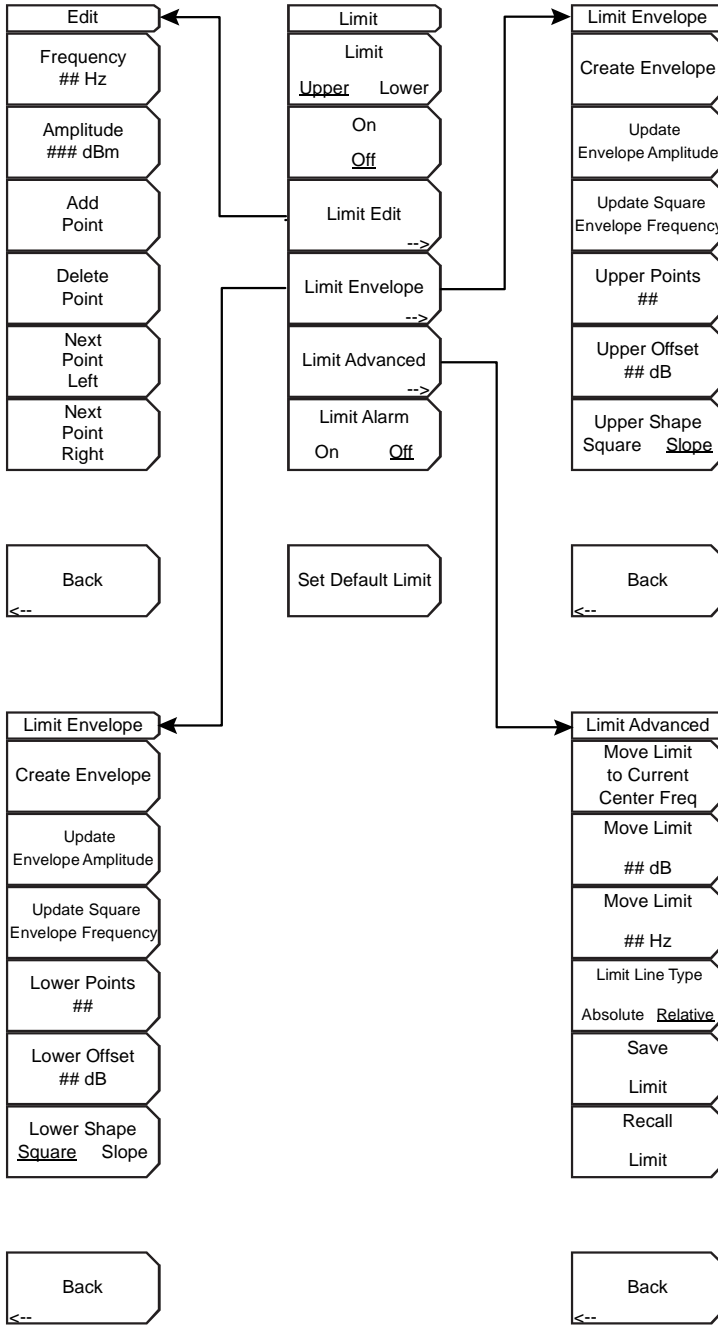

Figure 3-5. Limit Menu Soft Keys
To access the functions under the Limit menu, select the **Shift** key, then the **Limit (6)** key. The Limit menu soft keys are shown in Figure 3-5.